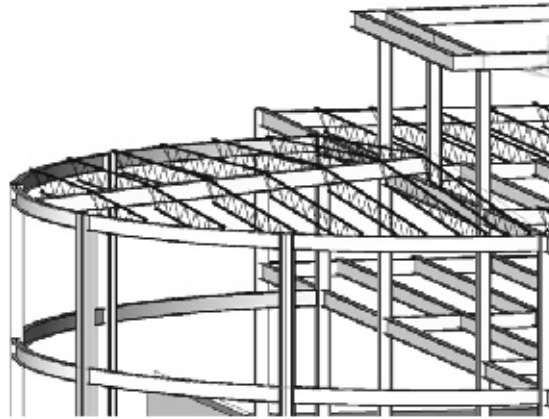

Figure 7-72
4. How do you create sloped beams such as those shown in Figure 7-72?